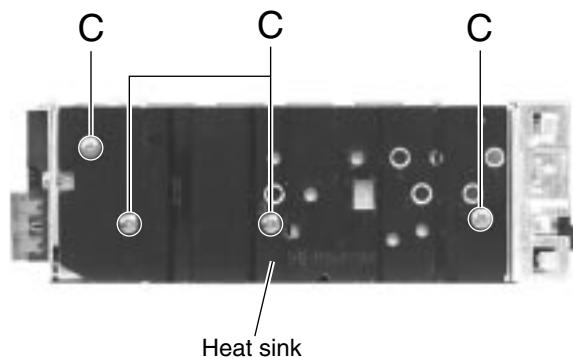

Fig. 6
■ Removing the heat sink (See Fig.6)
■Removing the cassette hanger assembly / cassette holder (See Fig.6 to 9)